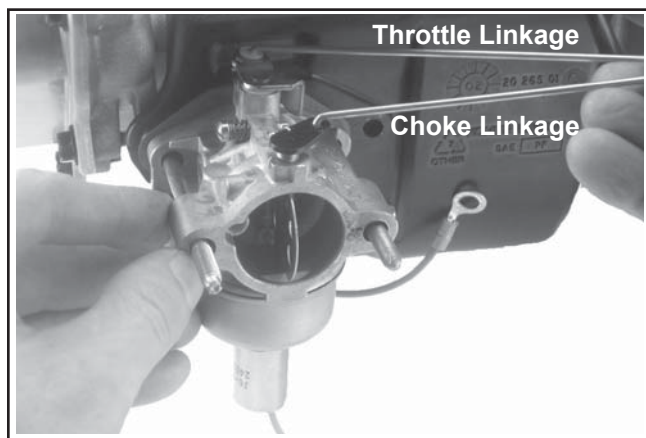

Figure 10-60. Installing Carburetor Assembly with Linkages.
6. Attach the choke and throttle linkages to the carburetor and install the carburetor assembly. See Figure 10-60. If the governor lever was not disconnected, slide it onto the governor shaft with the lever up.